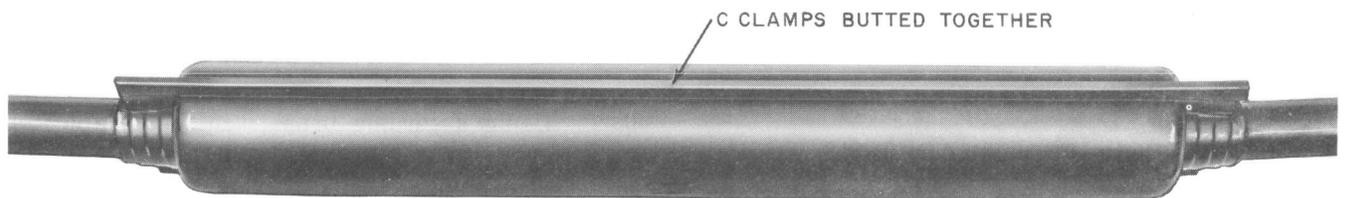

Fig. 13—Completed Closure
4.12 Pour the C encapsulant into the closure cover opening, distributing it evenly along the length of the opening, until the cover is filled approximately 1/4 inch from top of opening. (This prevents compound from overflowing when the paddles are removed.) Carefully remove the paddles and slide the C clamps toward the center until the ends butt together (Fig. 13).